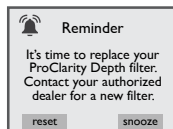

Figure 15.0e
23. ProClarity Depth Filter Reminder (not applicable): This message will appear when the filter reminder time has expired (Figure 15.0e). The ProClarity Depth filter must be replaced.